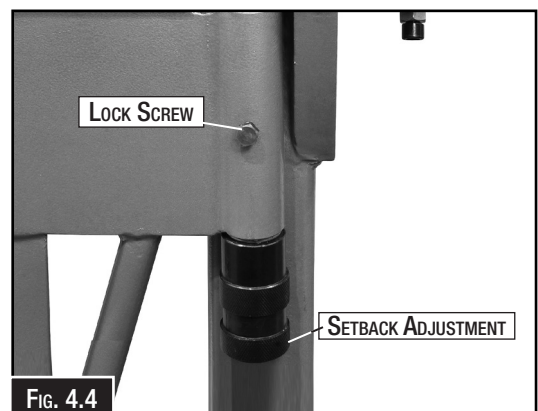

FIG. 4.4
3. Raise the bending leaf 90°. (Fig. 4.4).